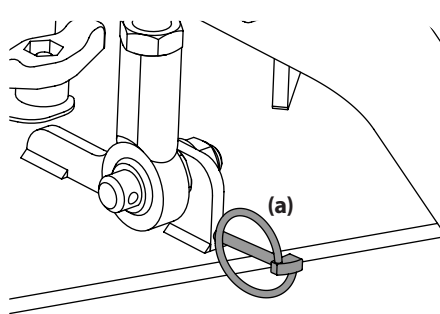

Figure 18
4. Remove the four lynch pins (a) that secure the deck to the deck lift assembly. See Figure 18.